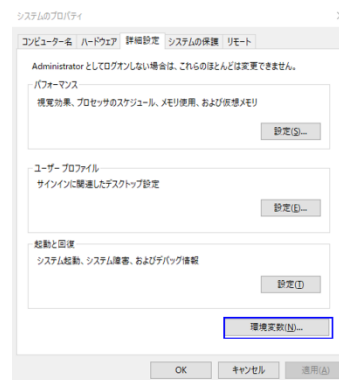

Fig. 5.7 System properties
- Click on Environment variables. (Fig. 5.7)